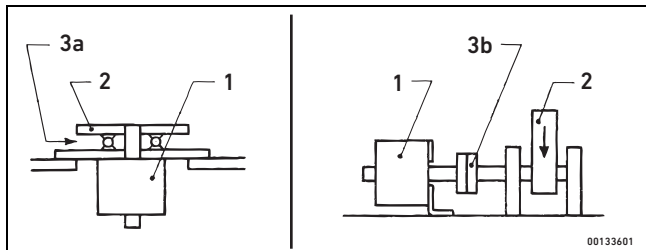

Fig. 3: Distribution of heavy loads
- ▶ Check that the maximum values of working pressure and axial and radial bearing load stated in the technical specifications are not exceeded. With heavy loads the load must be distributed. See Fig. 3, axial load (left) and radial load (right).